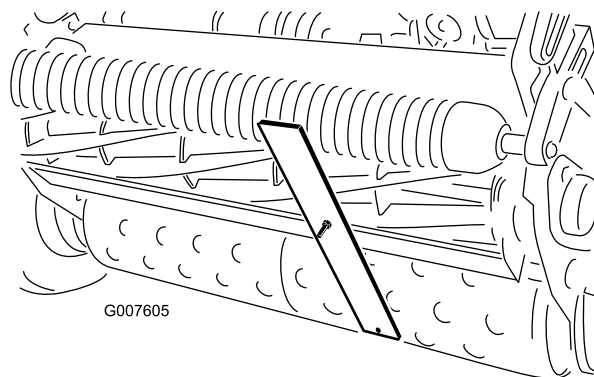

Figure 39
4. Hook the screw head on the cutting edge of the bedknife and rest the rear end of the bar on the rear roller (Figure 39).